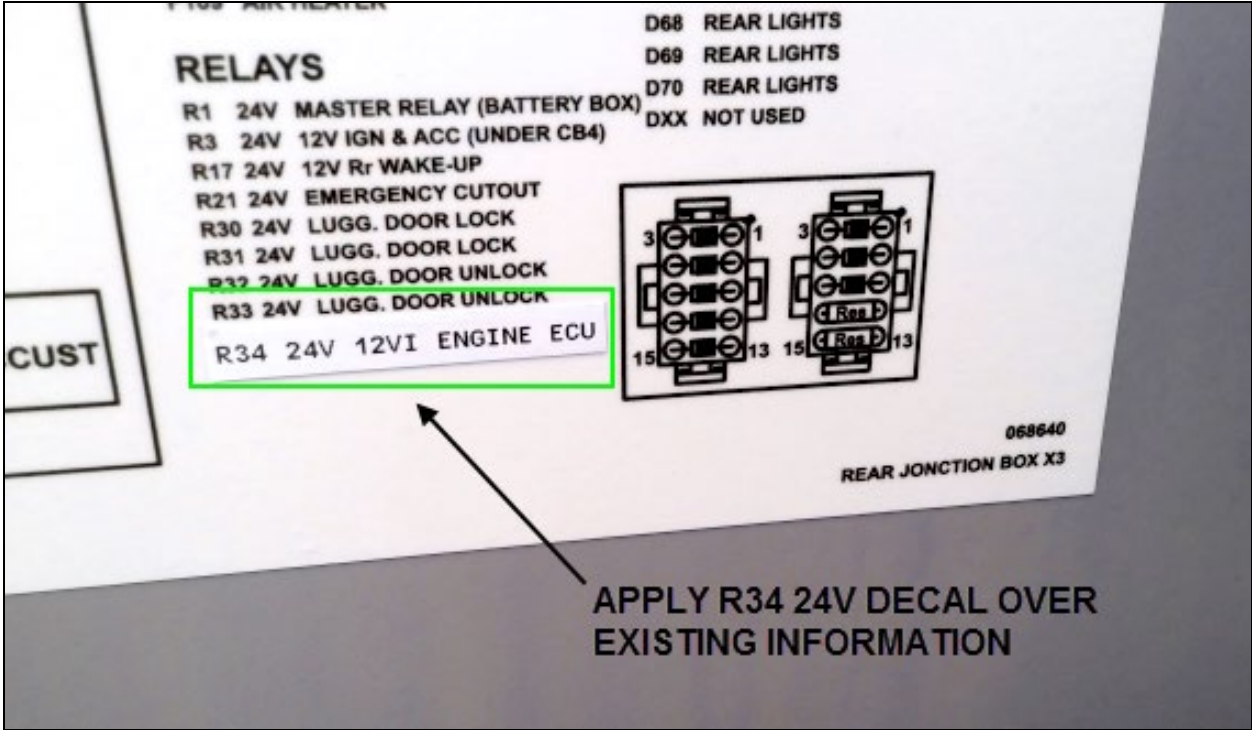

Fig.5 Decal showing correct R34 voltage (X3 Coach Shown).
4. Apply the new decal over the existing 12 volt information as shown on Fig.5 and make sure of proper adhesion (apply pressure on the entire area with a plastic card or scraper. In cold weather, apply moderate heat as necessary).